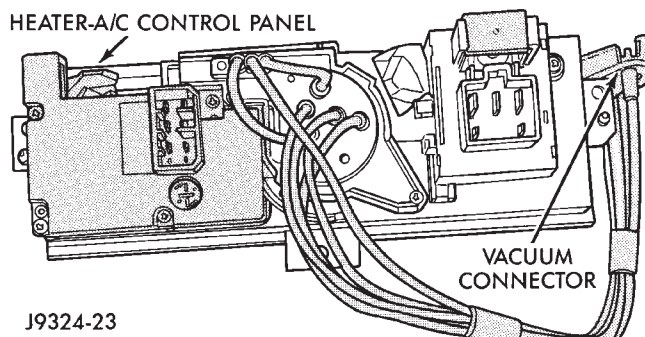

Fig. 3 Vacuum Connector
- (7) Disconnect the electrical connector(s).
- (8) Disconnect the vacuum connector on heater and manual A/C vehicles (Fig. 3).